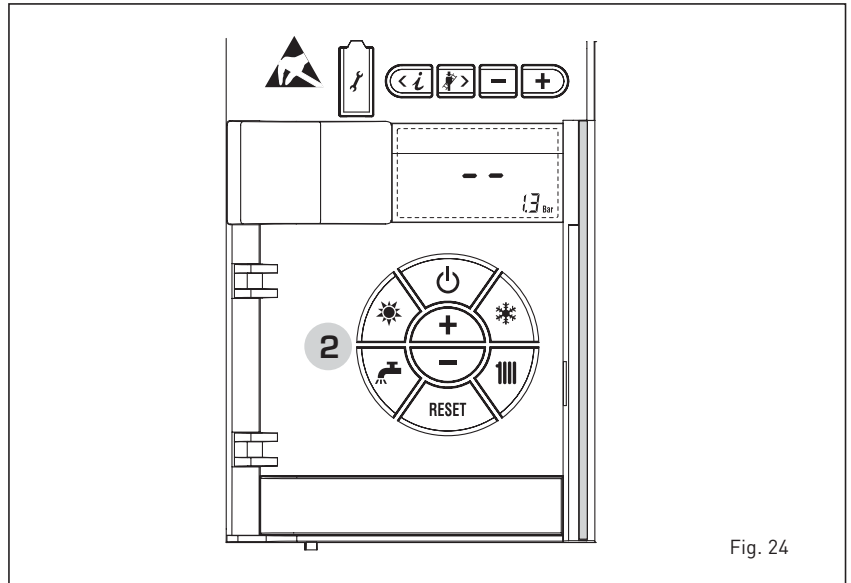

Fig. 24
### BOILER IGNITION (fig. 24)
### TO SWITCH OFF THE BOILER (fig. 24)
In the case of a short absence, press the key of the controls (pos. 2). The display will be as shown in the fig. 24.